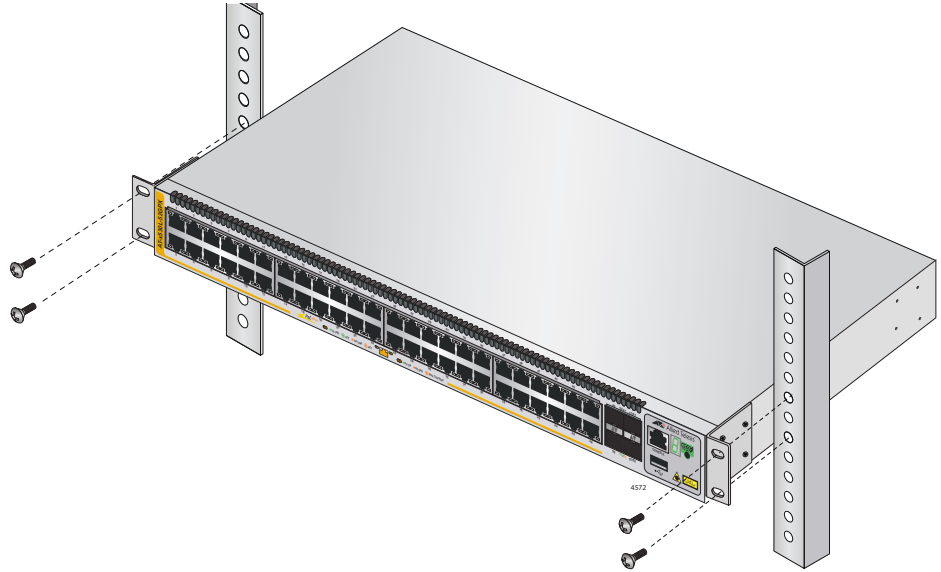

Figure 25. Installing the Switch in an Equipment Rack
3. Have another person hold the switch at the desired location in the equipment rack while you secure it using four standard equipment rack screws (not provided). Refer to Figure 25.